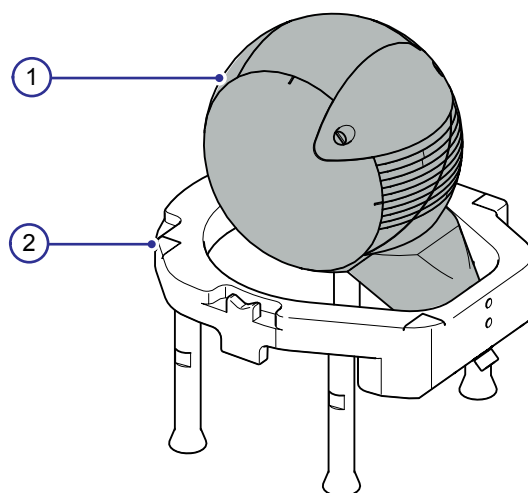

Figure 1.2 The complete Dosimetry Phantom (1) with the base plate
The complete Dosimetry Phantom consists of the dosimetry phantom (1) mounted on a base plate (2), see Figure 1.2.